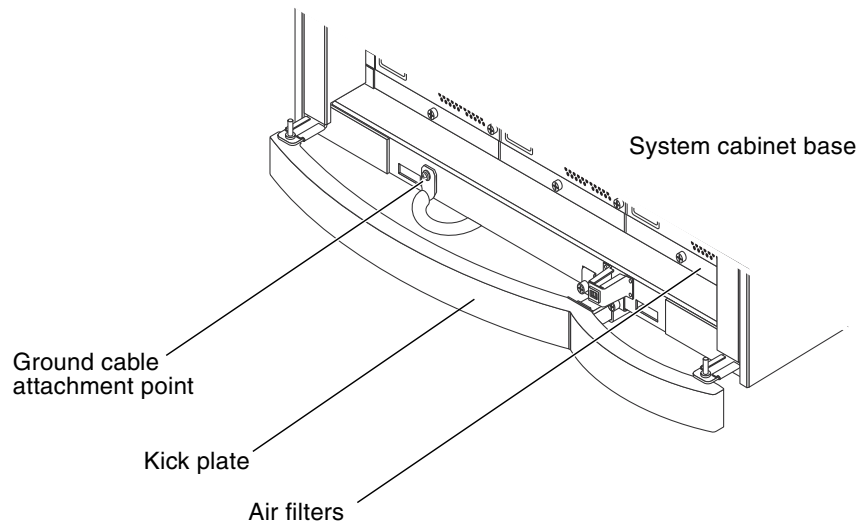

FIGURE 3-4 Ground Cable Attachment Point at System Cabinet
3. Attach the ground cable to the system, behind the kick plate, at the bottom of the frame base as shown in FIGURE 3-4.